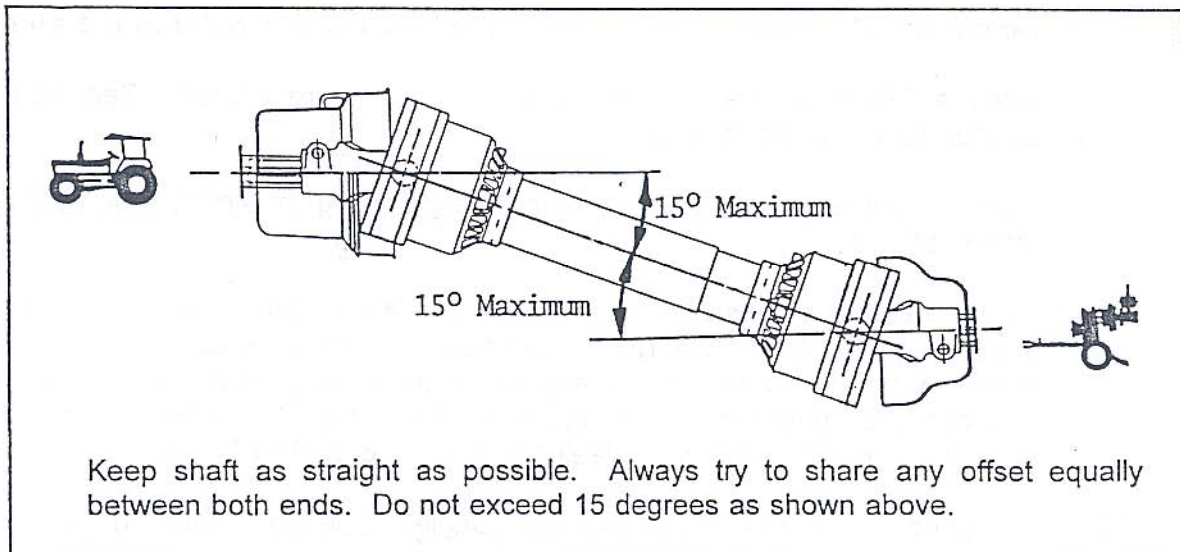

Figure 1. P.T.O. Drive Shaft Alignment.
12. Do not operate PTO shafts at excessive angles. See the Installation Section Figure 1.
6. The PTO drive shaft should be as straight as possible to ensure maximum life. **Do not** operate at angles exceeding 15 degrees. See Figure 1.